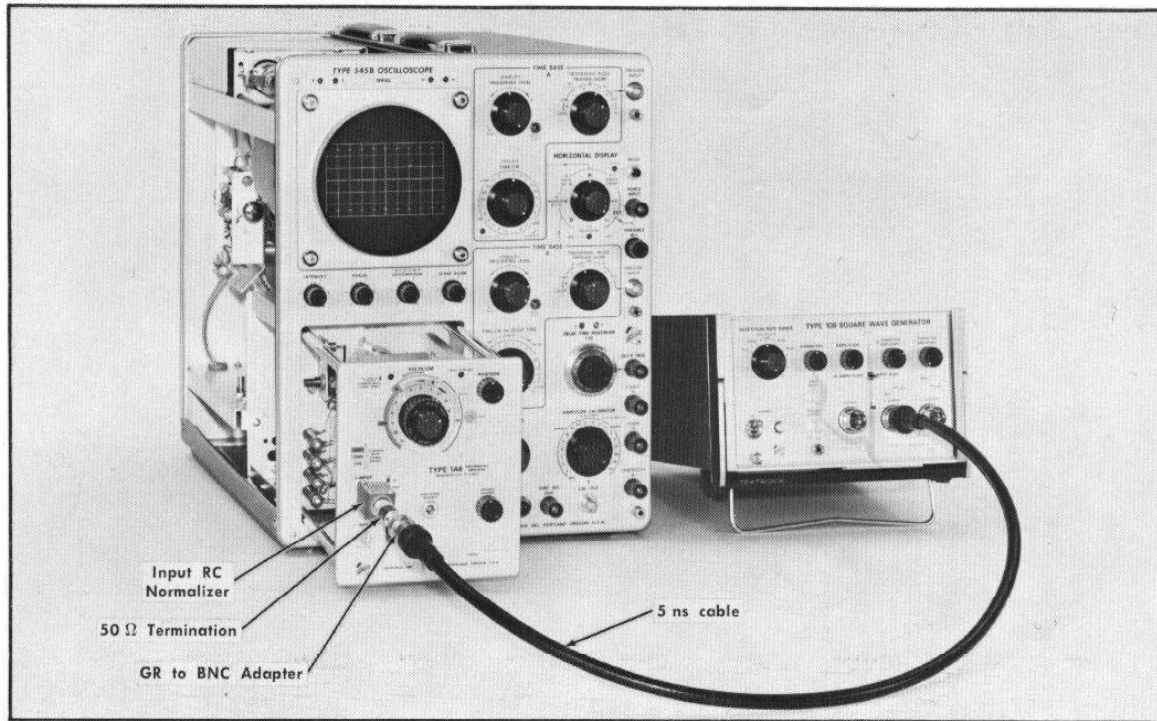

Fig. 6-10. Equipment setup for steps 9 and 10.
9. Adjust Input Compensation and Cross Neutralization ①
- a. Equipment setup is given in Fig. 6-10.